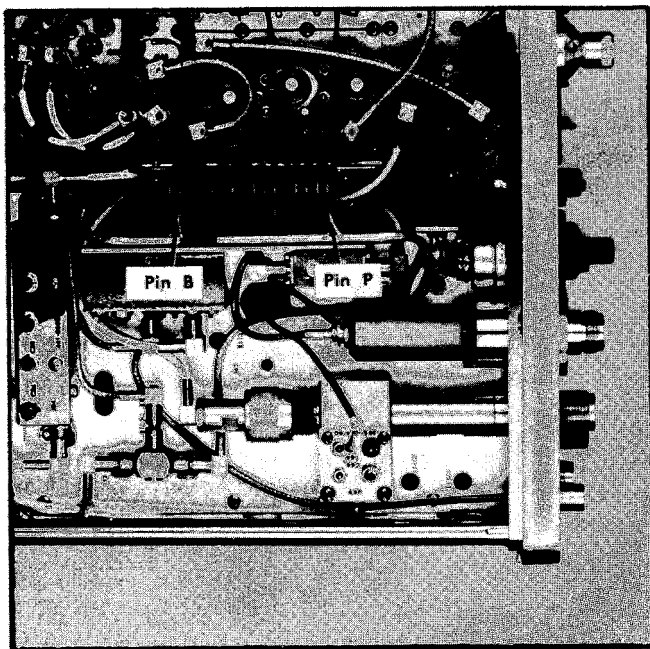

Fig. 6-17. Location of pin P on the honeycomb square pin connector.
- d. Establish zero volt reference level on the test oscilloscope by connecting the probe to chassis ground on the Type 491, then connect the probe to pin P of the square pin connector for the honeycomb assembly. See Fig. 6-17.